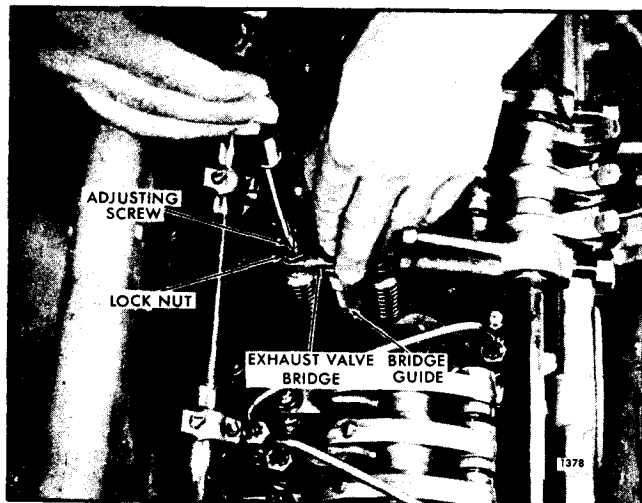

Fig. 2 - Exhaust Valve Bridge Adjustment (Four Valve Cylinder Head)
2. Remove the exhaust valve bridge (Fig. 2).
5. While firmly pressing straight down on the pallet surface of the valve bridge, turn the adjusting screw clockwise until it just touches the valve stem. Then turn the screw an additional 1/8 to 1/4 turn clockwise and tighten the lock nut finger tight (Fig. 2).